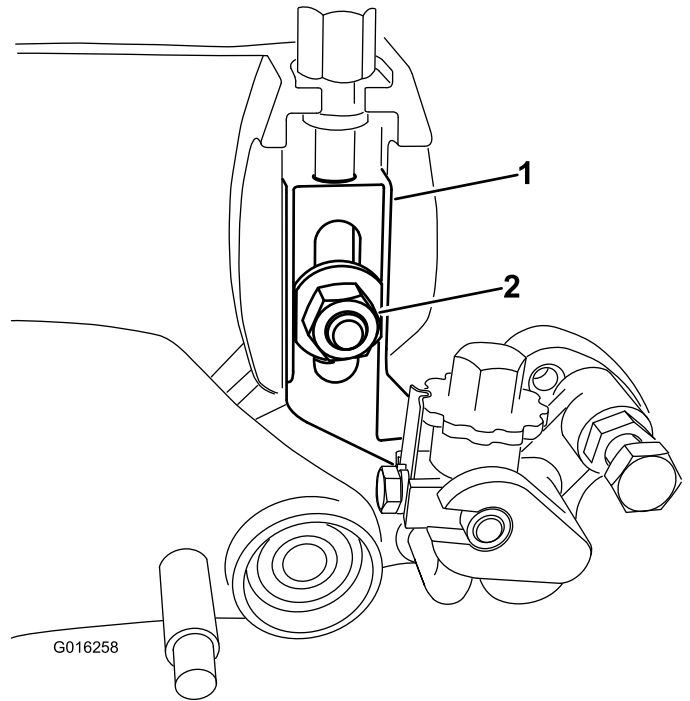

Figure 30
5. Remove the plow bolt, nut, and washer securing the height-of-cut arm assembly to the side plate (Figure 30).